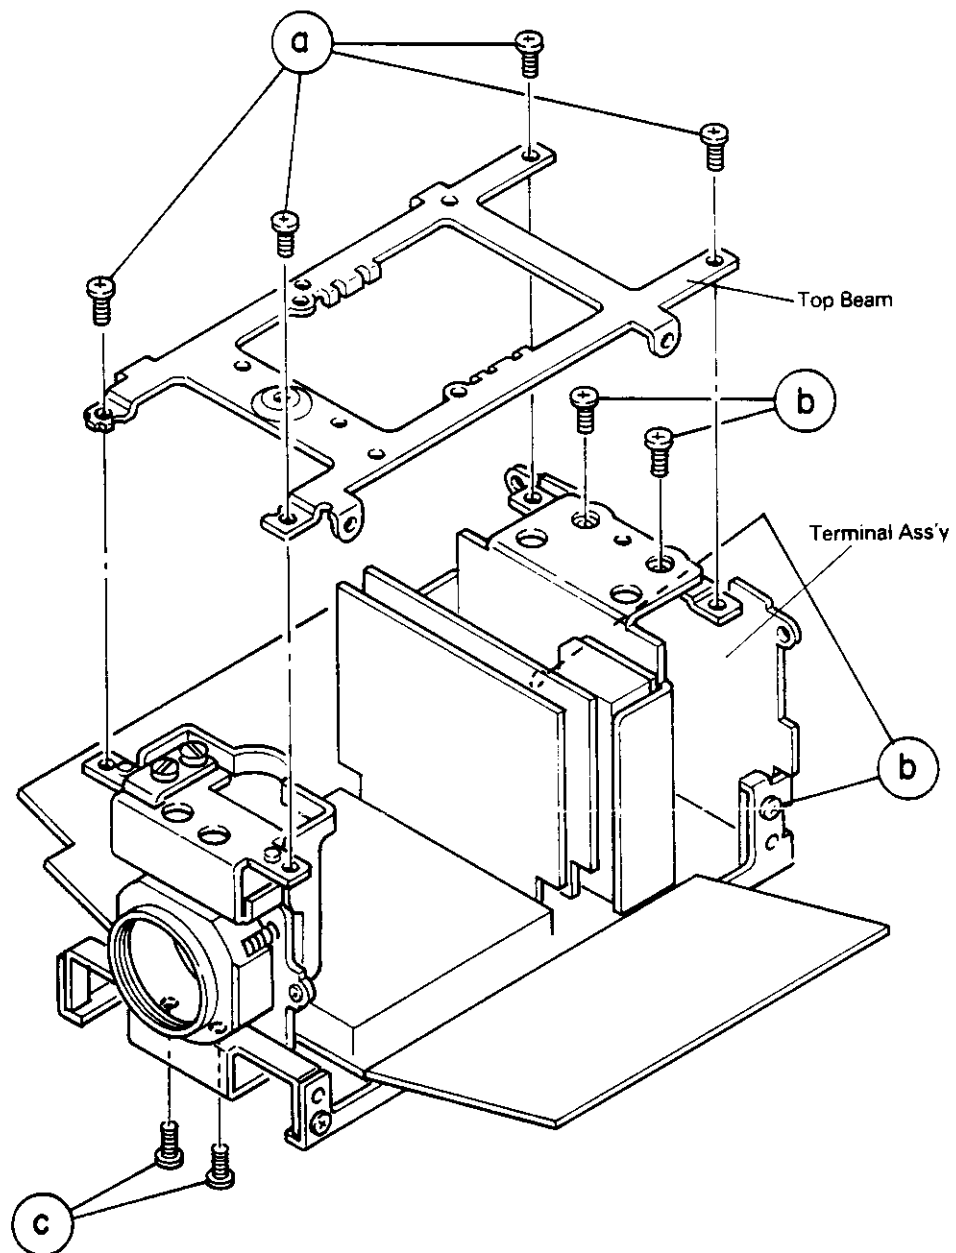

Fig. 2
Remove the four screws ④ shown in Fig. 2.
Remove the four screws ⑤ shown in Fig. 2.
- (1) Remove the two screws ③ shown in Fig. 2.
- (2) Disconnect four connectors and the grounding lead from the imager PC board. Now the CCD imager and imager PC board can be removed completely.